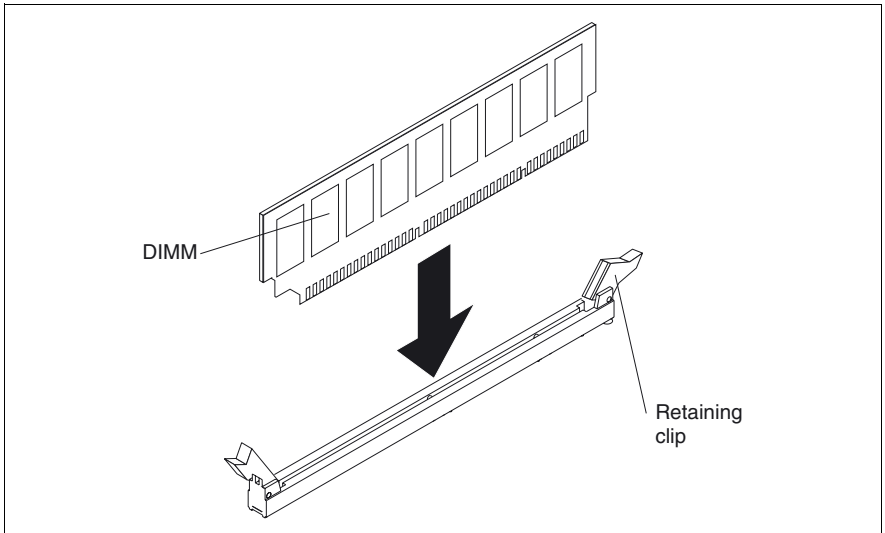

Figure 11: Inserting a DIMM
- ▶ Turn the DIMM so that the DIMM keys align correctly with the slot (see figure 11).